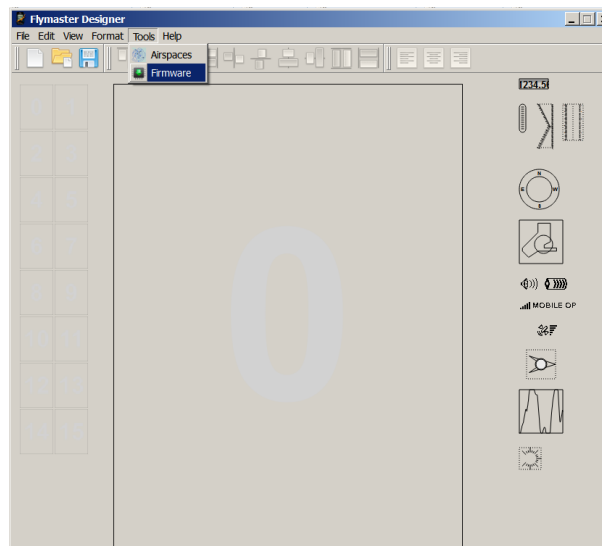

Figure 7.1: Firmware Menu Option
2. Select Tools->Firmware (see Figure 7.1);